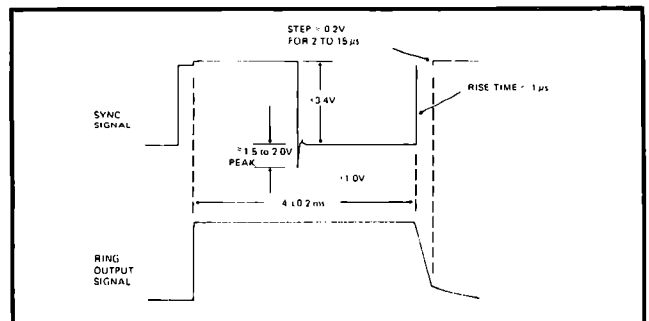

Figure 4-12. RING COUNTER - SYNC SIGNAL.
e. The ring counter synchronizing signal, TP11, should appear as shown in Figure 4-12.